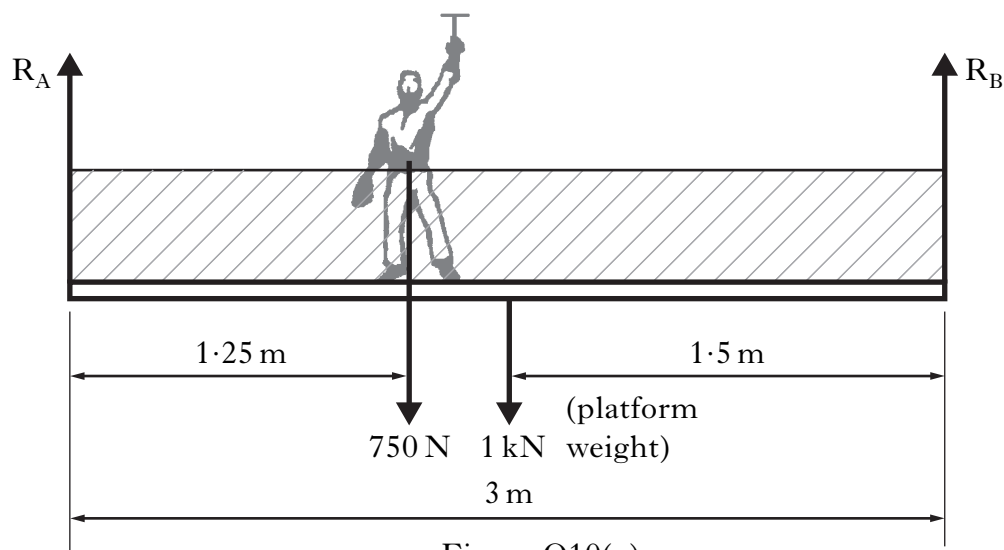

Figure Q10(a)
10. Figure Q10(a) shows a window cleaner's platform.
(a) Draw a free body diagram of the system shown in Figure Q10(a).